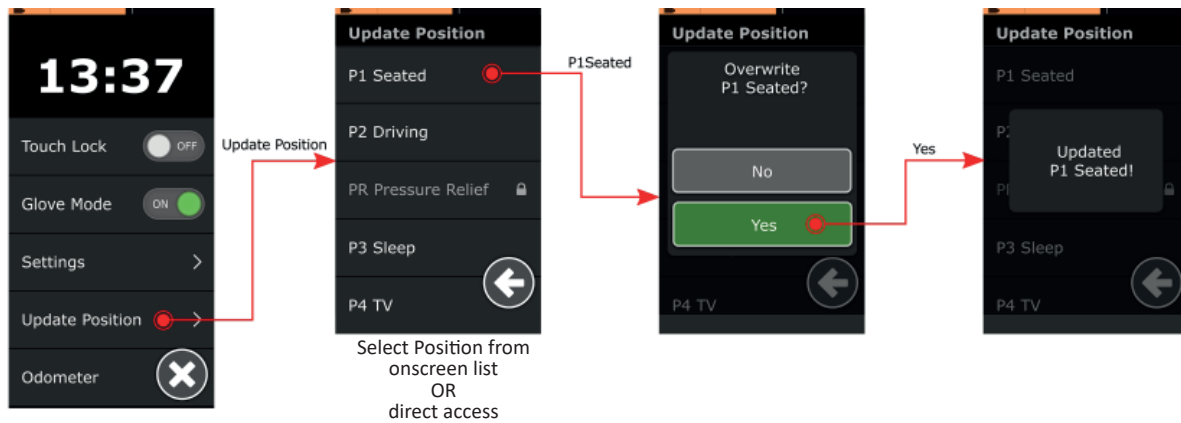

Figure 11.18: Updating memory positions — REM400/500
2. open the settings menu on the remote module (Figure 11.18)